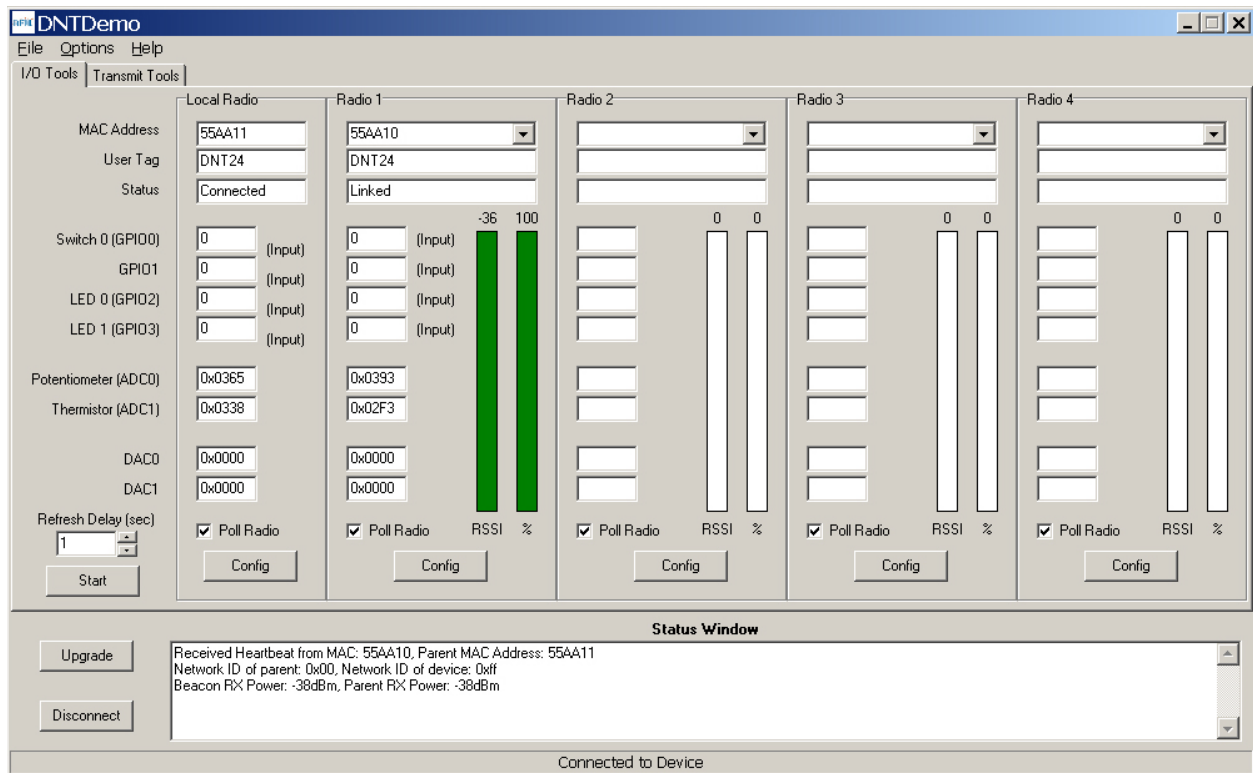

Figure 8.4
7. DNT Demo will display data on the *Remote* in the *Radio 1* column, including bar graphs of *RSSI* (signal strength) and *percent* packet success rate, as shown in Figure 8.4. You can change the *Refresh* setting from the drop down menu at the bottom left.